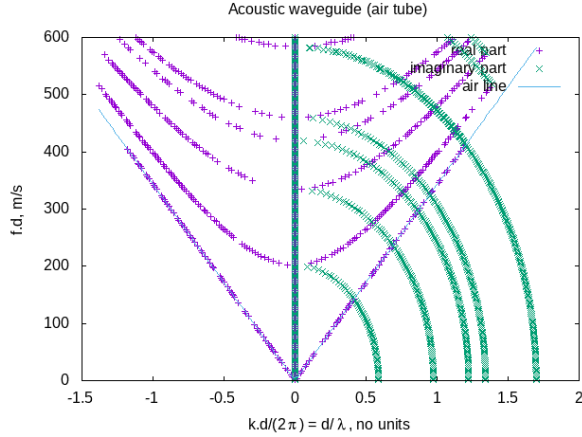

Figure 2: Complex dispersion relation of an acoustic waveguide.
2. Run the script and plot the complex dispersion relation. An example `wg_complex.plt` gnuplot script is given to plot Figure 2. Do you understand the physical meaning of the purely imaginary branches that now appear? (Note: they are evanescent guided waves.)